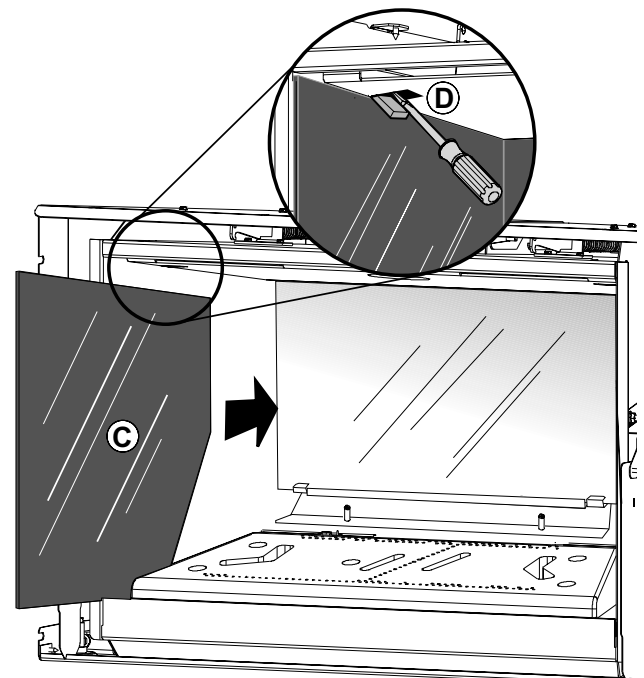

Figure 27. Install side glass panels.
- Slide each Side Panel (C) into position flat against the firebox side, resting on the support shelf as in fig. 27. Push the side panel back against the rear panel.